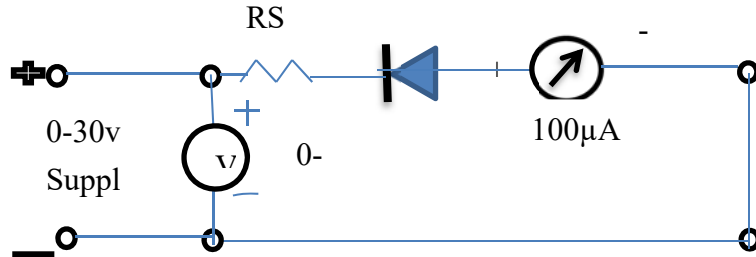

Fig .2(a)
- v. Plot a graph between voltage and current for reverse characteristics as shown in fig 2(c).